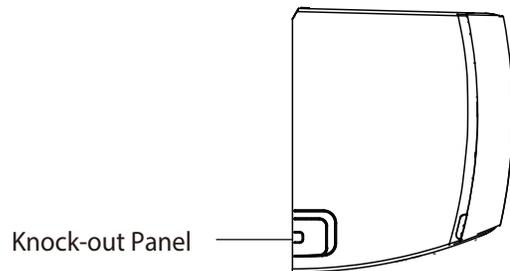

Fig. 11 – Knock-out Panel
2. If the wall hole is behind the unit, keep the knock-out panel in place. If the wall hole is to the side of the indoor unit, remove the plastic knock-out panel from that side of the unit (see Fig. 11). This creates a slot through which your piping can exit the unit. Use needle nose pliers if the plastic panel is too difficult to remove by hand.